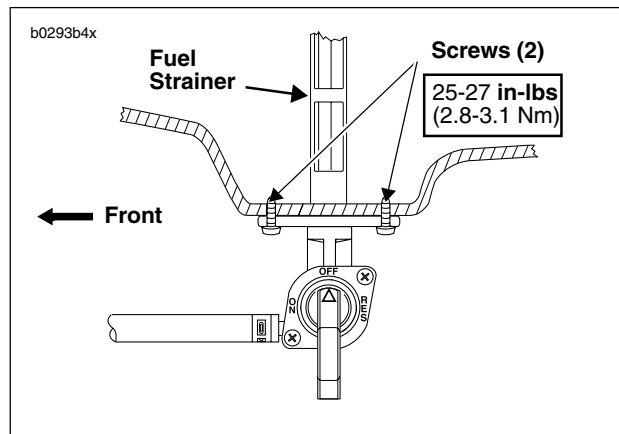

Figure 4-33. Fuel Supply Valve
4. See Figure 4-33. Remove two screws and fuel supply valve assembly.
1. See Figure 4-33. Clean or replace filter strainer (located inside fuel tank above fuel supply valve). Filter strainer threads into valve body.
1. See Figure 4-33. Attach fuel supply valve to tank with two screws. Tighten to 25-27 in-lbs (2.8-3.1 Nm).